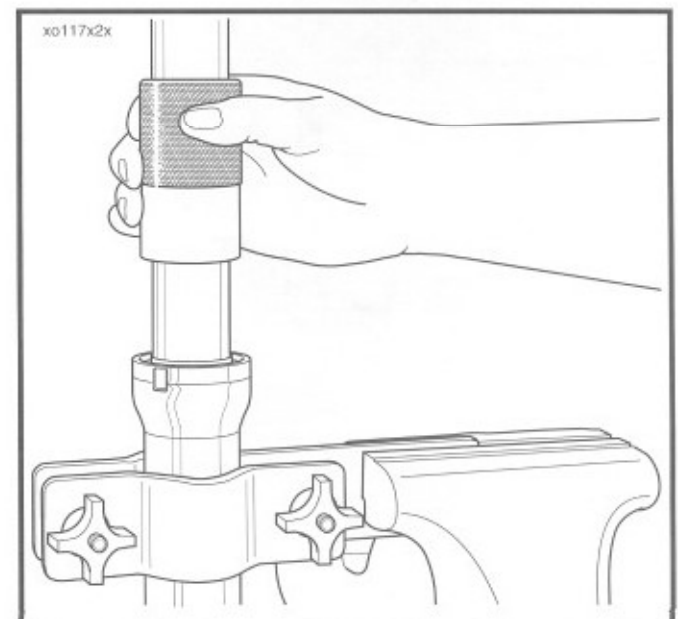

Figure 2-69.
- See Figure 2-69. Drive the guide bushing with the spacer seal into the slider.